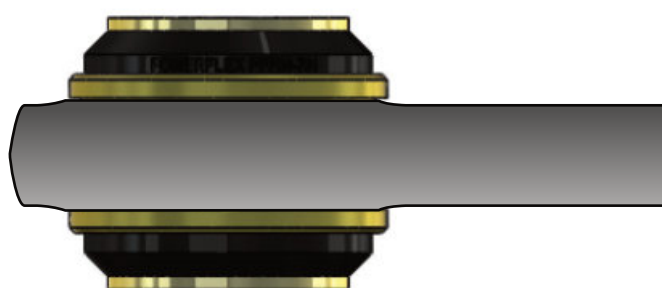

Figure 2
4. Press the Powerflex bush into the arm so that the flanges of the bush protrude on each side of the fitted shells as shown in Fig 2.